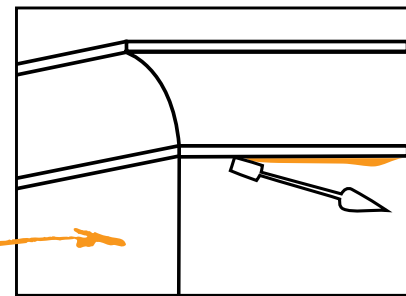

FIGURE 70 Clean Off Excess
- > Clean off excess and remove nails when cement has partially set. Straight stop along cornice edge at wall and ceiling. [Figure 70]